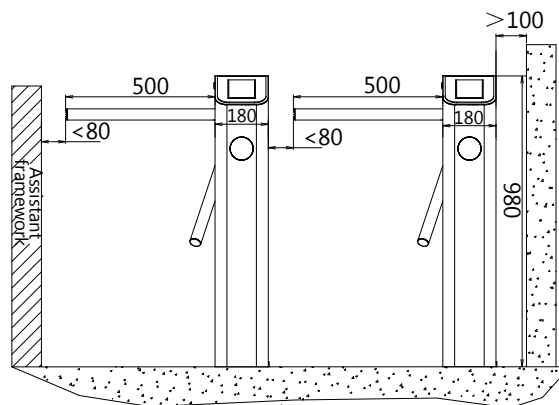

Figure 3-1
You are suggested to install an assistant framework or fence to form a passageway, as shown in figure 3-1.
- The space at the end of the arm shall not be greater than 80mm (see figure 3-1).